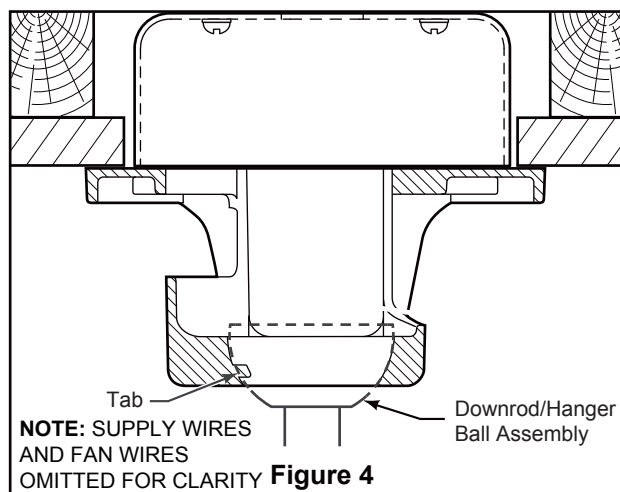

Figure 4
4. Slide dowrod into the dowrod support on top of the motor. Install the clevis pin by aligning the holes in the dowrod support with holes in the dowrod. Secure clevis pin with hairpin clip. Tighten the two set screws in the dowrod support. (Figure 4)
- ☐ 3. Carefully lift the fan and seat the downrod/hanger ball assembly onto the hanger bracket that was just attached to the outlet box. Be sure the groove in the ball is lined up with tab on the hanger bracket. (Figure 4)
3. Connect green wires from hanger bracket and motor housing to bare (ground) wire using wire connector. Connect black wire from receiver unit marked "AC IN L" to black supply wire using wire connector. Connect white wire from receiver unit marked "AC IN N" to white supply wire using wire connector. Connect white wire from receiver unit marked "TO MOTOR N" to white wire from fan using wire connector supplied with receiver unit. Connect black wire from receiver unit marked "TO MOTOR L" to black wire from fan using wire connector supplied with receiver unit. Lastly, connect blue wire from receiver unit to the blue fan light wire using wire connector supplied with receiver unit. (Figure 4)